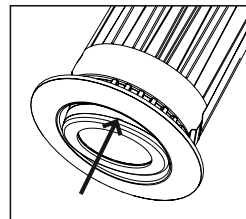

Figure 14
Step 1. Insert a small screwdriver into the slots between the gimbal face and body. Pry off the face. It may be necessary to pry in a few locations to pull the face evenly off. Optic will come free after the face is pulled off (Fig. 14).